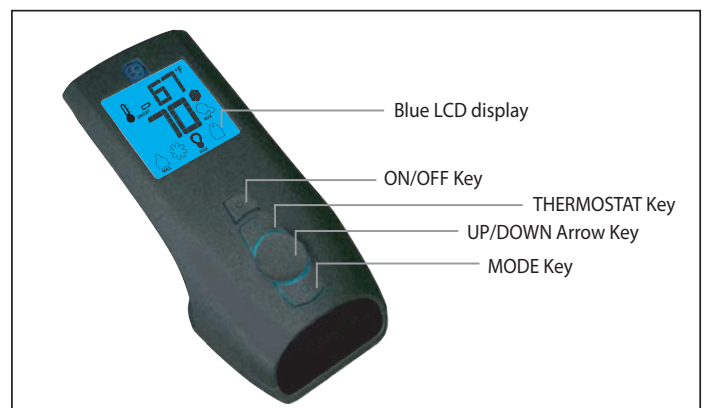
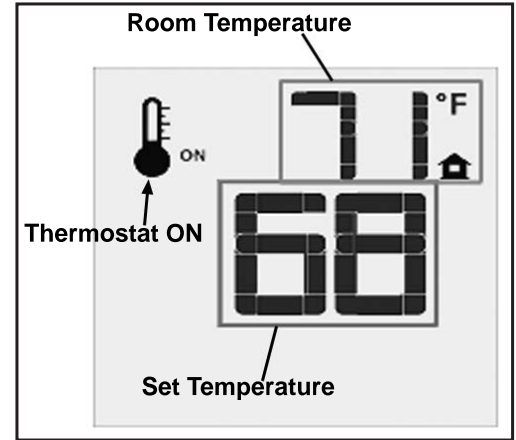
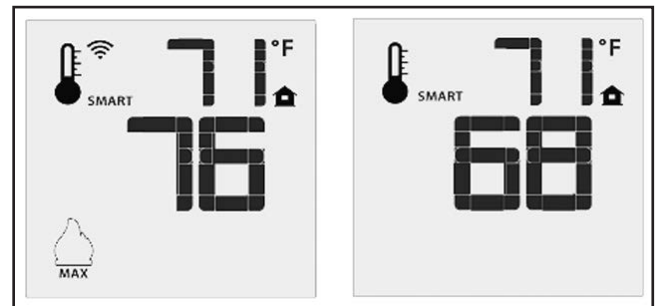
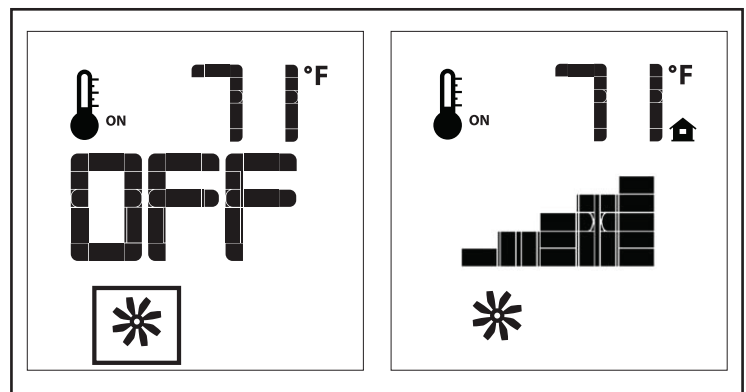

Figure 4: Proflame 2 Transmitter.
Figure 9: Remote Control Displays Set Temperature.
Figure 10: Remote Control's Smart Flame Function.
Figure 13: Fan Control
The Proflame 2 Transmitter is a black remote control with a blue backlit LCD display. It uses a streamline design with a simple button layout and informative LCD readout (Figure 5). The Transmitter is powered by three (3) AAA type batteries. A Mode Key is provided to Index between the features and a Thermostat Key is used to turn on/off or index through Thermostat functions (Figure 4 & 5)
The Remote Control can operate as a room thermostat. The thermostat can be set to a desired temperature to control the comfort level in a room. To activate this function, press the Thermostat Key (see Figure 4). The LCD display on the Transmitter will change to show that the room thermostat is “ON” and the set temperature is now displayed (see Figure 9). To adjust the set temperature, press the Up or Down Arrow Keys until the desired set temperature is displayed on the LCD screen of the Transmitter.
The Smart Thermostat function adjusts the flame height in accordance to the difference between the set point temperature and the actual room temperatures. As the room temperature gets closer to the set point the Smart Function will modulate the flame down. To activate this function, press the Thermostat Key (Figure 4) until the word “SMART” appears to the right of the temperature bulb graphic (Figure 10). To adjust the set temperature, press the Up or Down Arrow Keys until the desired set temperature is displayed on the LCD screen of the Transmitter.
The Westley comes with a convection fan that can be controlled with the Transmitter. The fan speed can be adjusted through six (6) speeds. To control the fan press the Mode key (Figure 4) to index to the fan control icon (Figure 13). Use the UP/DOWN arrow keys to turn on, off, or adjust the fan speed (Figure 13). A single beep from the IFC will confirm the command has been received